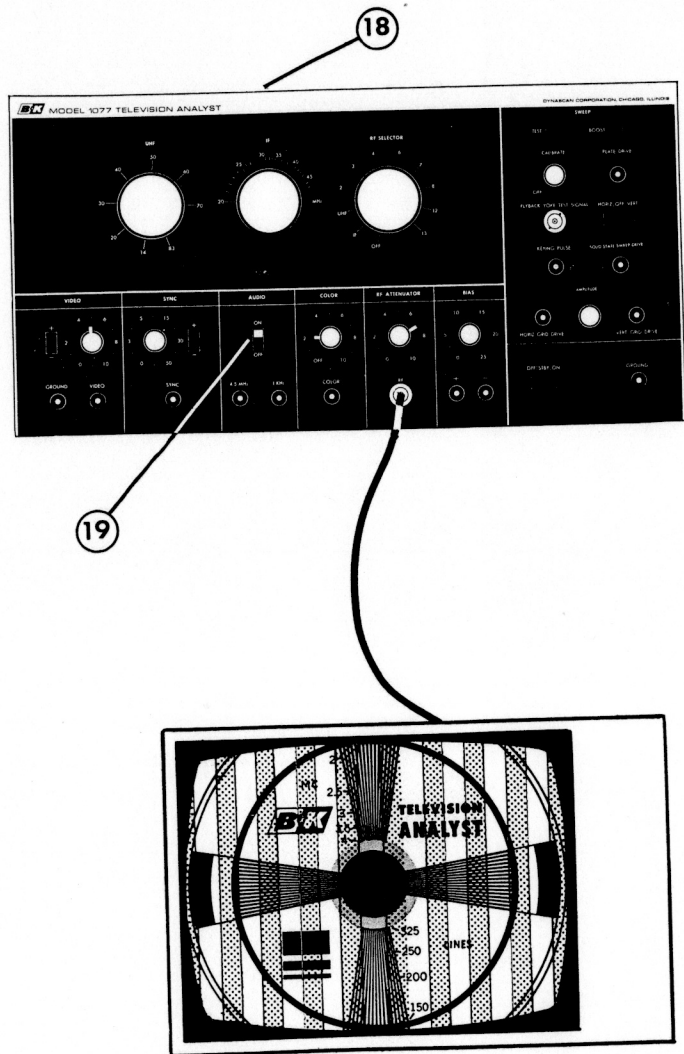

Figure 8. Black and White Video Test Pattern and Color Bar Pattern Superimposed
18. Reinsert the test pattern slide and notice that the black and white test pattern and the color bar pattern are both present on the display. This demonstrates the ability of the television receiver to display both black and white signals and color signals. (See Figure 8.)